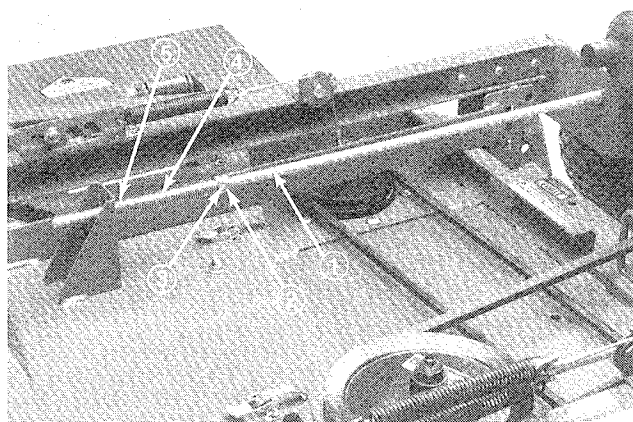

Figure 5
2. Thread (2) jam nuts on each adjusting shaft (approximately 9 inches) (Fig. 5).
3. Slide a washer, spring and bushing onto each adjusting shaft. Bushing to be positioned so flange end is against spring (Fig. 5).
4. Insert spring end of each adjusting shaft into hole in deck mounting bracket and other end of shaft into hole in carrier frame mounting tab. Small end of bushing to fit into hole in deck bracket (Fig. 5).
5. To tension belt, tighten front jam nut on each adjusting shaft until springs are compressed to a length of 5", measured between washer and bushing (Fig. 5). Secure rear jam nuts.